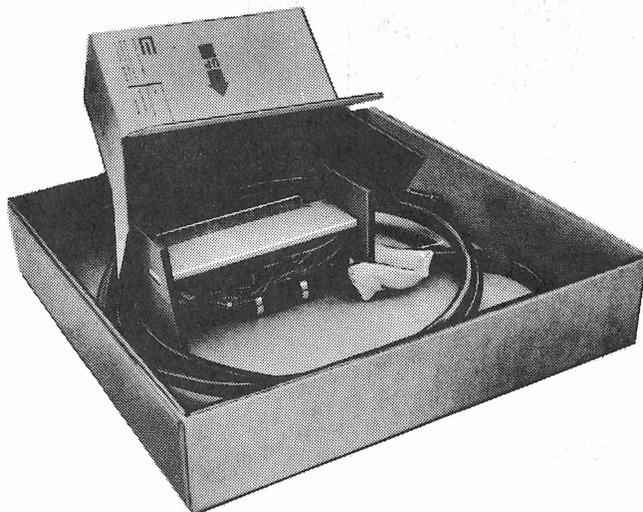

Figure 19. Typical Connector Packing Details
- b. Use care when unpacking the Connector from the shipping carton to avoid damage to connector base, protector modules or cable stub. Refer to figure 19 for typical Connector packing.